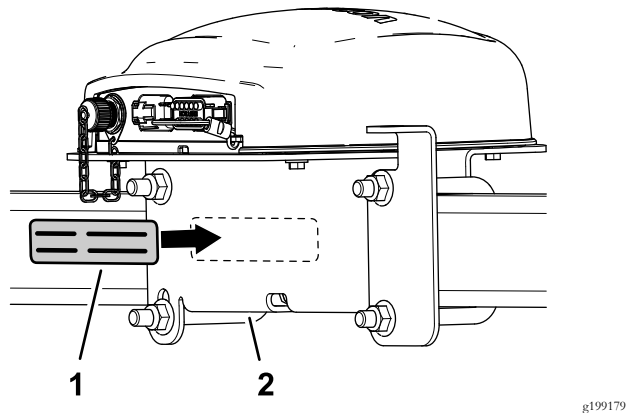

Figure 146
- Apply the serial label to the receiver mount (Figure 146).